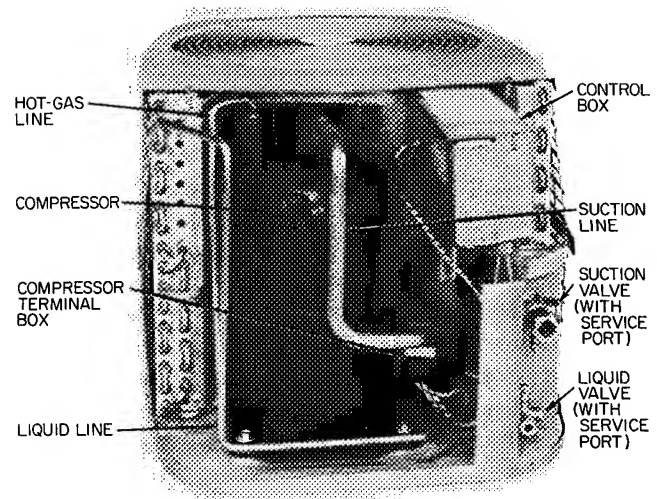

Fig. 5 – Condensing Unit with Access Panels Removed (38CE Unit Shown)
Compressor Removal (See Table 7 for compressor information and Fig. 5 for component location.)
2. Remove top access cover and rear access wrapper (Fig. 5).